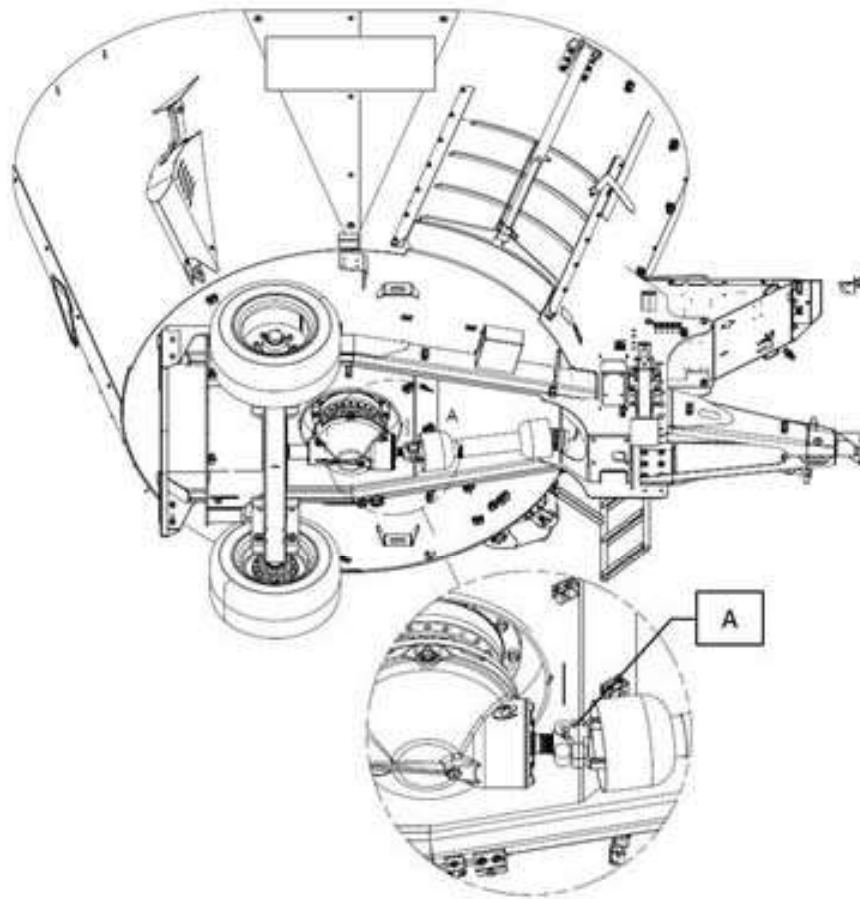

Figure 35 — Location of the Shear Bolt Yoke on a Single-Auger SMARTMIX
2. Remove the piece of shear bolt from the yoke (see Figure 35, A).